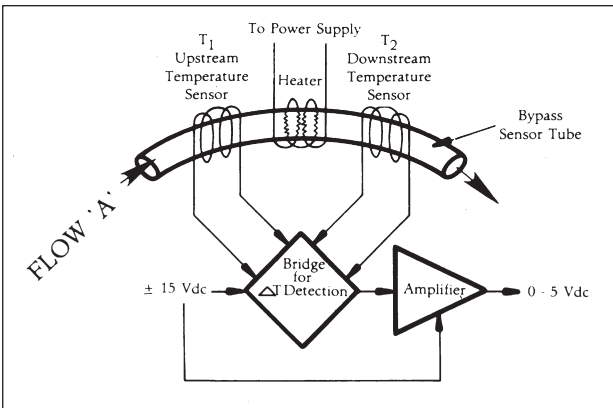

Figure 3-1. Flow sensor operational diagram
A precision power supply provides a constant power heat input (P) at the heater, which is located at the midpoint of the sensor tube. Refer to figure 3-1. At zero, or no flow conditions the heat reaching each temperature sensor is equal. Therefore the temperatures T1 and T2 are equal. When gas flows through the tube the upstream sensor is cooled and the downstream sensor is heated, producing a temperature difference. The temperature difference T2-T1, is directly proportional to the gas mass flow. The equation is:  $\Delta T = A * P * Cp * m$